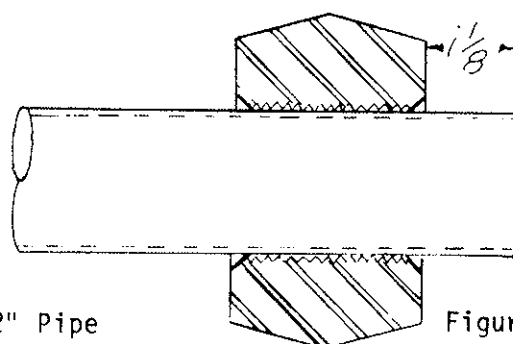

Figure 13
D. Measure the proper distance from the end of the pipe. (1 1/2" for 2" x 45 degree crimp and 1 1/8" for 1 1/2" x 90 degree crimp). These dimensions may vary slightly, therefore, it is recommended that the operator experiment with the tool on some scrap piece of pipe until the desired results are obtained. (See Figure 13).
E) Select the proper size collet and clamp the pipe securely in the vise. (**NOTE:** When forming the 1 3/4", 2", and 2 1/4" x 45 degree crimp, make certain the deep chamfered inside edge of the collet is toward the tool). (See Fig. 13).